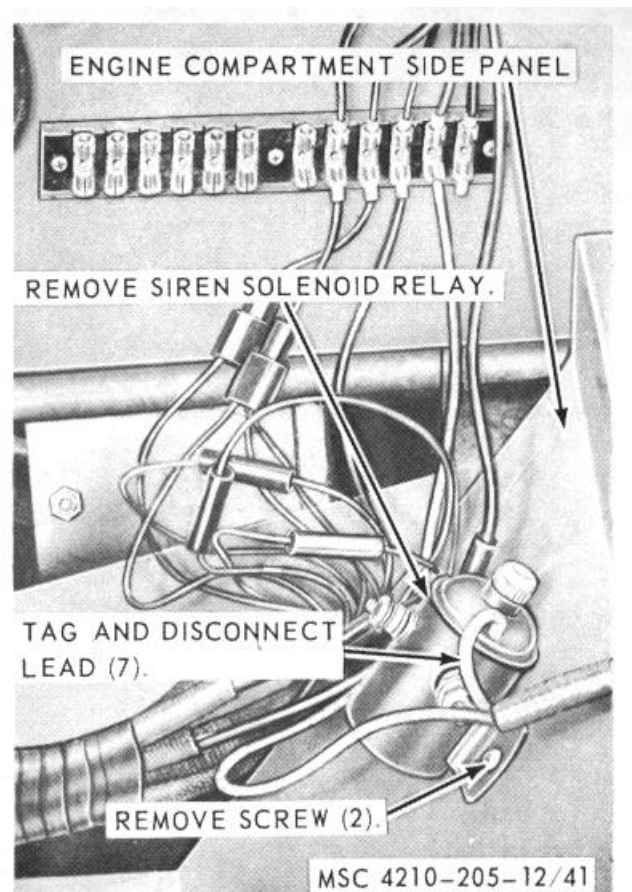

Figure 41. Siren solenoid relay, removal and installation.
a. *Removal.* Refer to figure 41, and remove the siren solenoid relay from the engine compartment.
- (1) Clean all parts with a clean cloth dampened in an approved cleaning solvent, and dry thoroughly.
- (2) Inspect all parts for damaged or defective condition.
- (3) Replace or repair damage(or defective parts as necessary.
c. *Installation.* Refer to figure 41, and install the siren solenoid relay on the engine compartment.